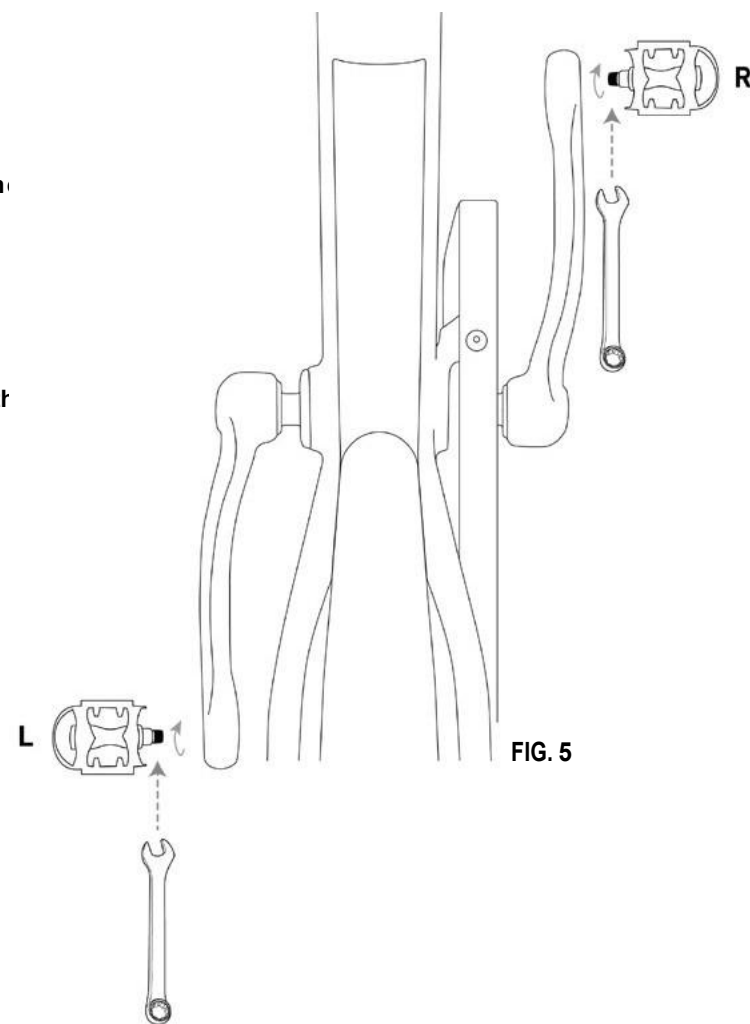

FIG. 5
**Right pedal:** it is identified by the letter “R” marked on its pin. To assemble the pedal, screw by turning the pin clockwise (Fig. 5).
**Left pedal:** it is identified by the letter “L” marked on its pin. To assemble the pedal, screw by turning the pin counterclockwise (Fig. 5).